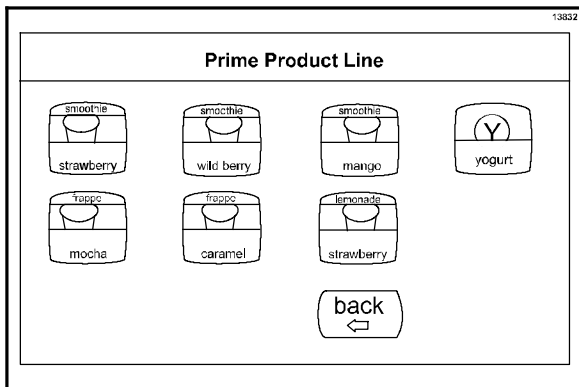

Figure 160
- Press the appropriate product key and squeeze the cleaning bottle while the product line is priming. (See Figure 160.)